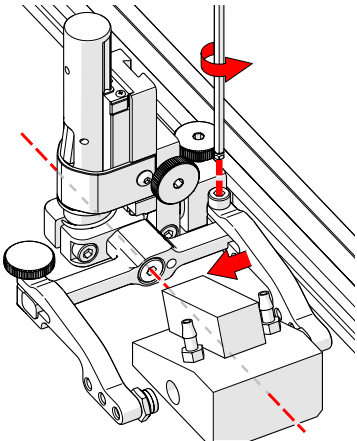

Fig. 166 - Adjust inner arm
4. Position the wedge on the inner probe holder arm (Fig. 166).
**TIP:** The probe holder yoke can accommodate many different probe and wedge sizes of varying widths. It is best to centre the wedge with the yoke's pivot axis. This can reduce wedge 'rocking' when scanning. Position the inner probe holder arm accordingly (Fig. 166) using the supplied 3 mm hex driver (Fig. 1).